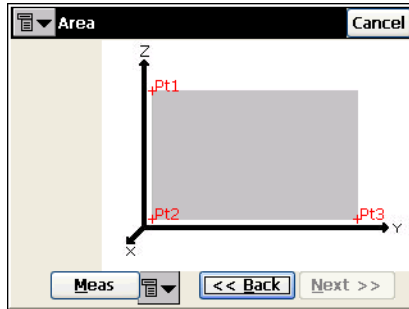

Figure 6-57. Select Area
2. Select the Scanning Area. The starting and ending points for the scanning area can be selected from the Point List or Map, or measured (Figure 6-57). When finished, click **Next**.